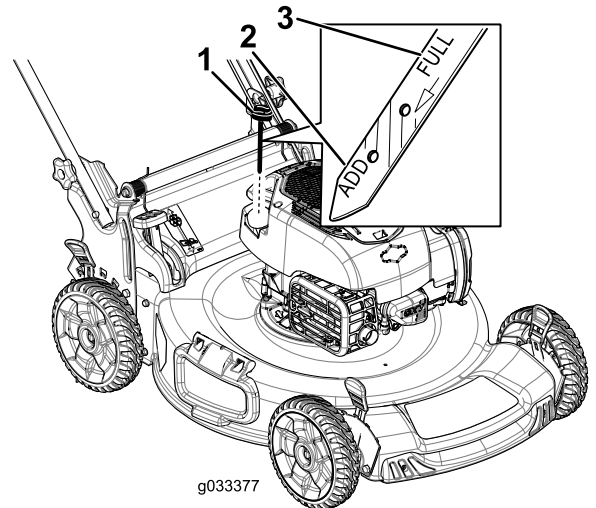

Figure 33
3. Remove the dipstick by rotating the cap counterclockwise and pulling it out (Figure 33).
10. Read the oil level on the dipstick (Figure 33).